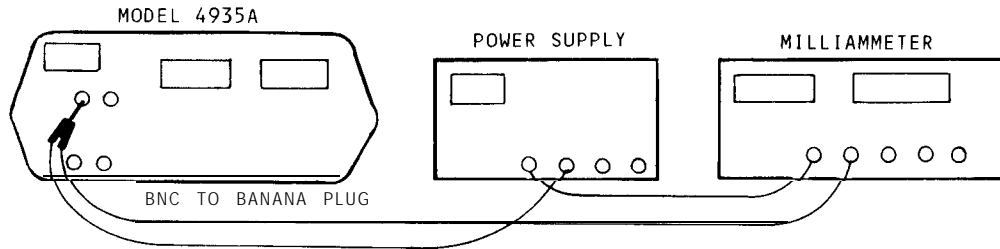

FIGURE 5-3. Hold Circuit Adjustments
1. Connect equipment as shown in Figure 5-3.